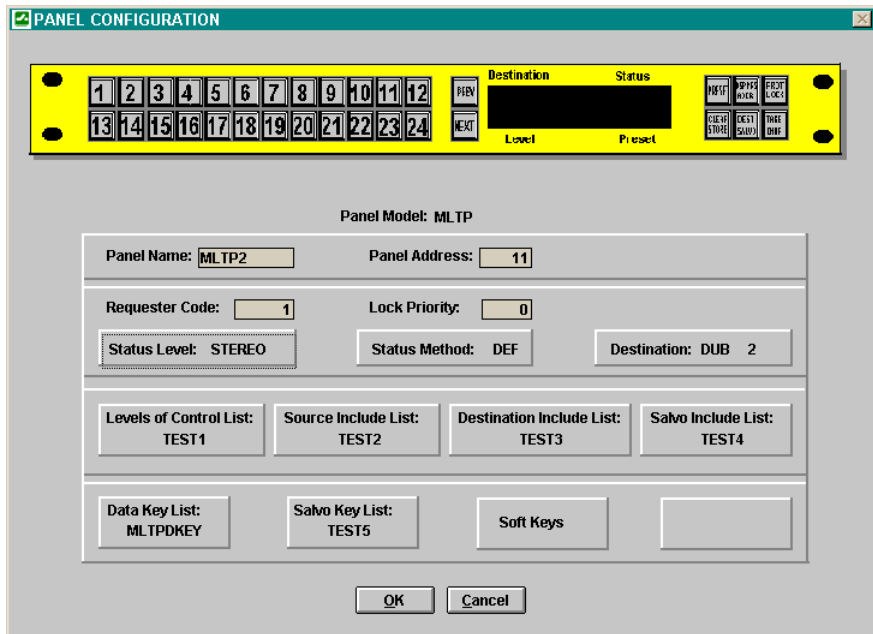

Figure 44 Panel Configuration Window (Typical)
2. Click the **Add** button in the PANEL window to open the PANEL CONFIGURATION window (Figure 44). Each PESA control panel has a custom PANEL CONFIGURATION window. Only those configurable items applicable to the chosen panel will be displayed in the window. For a panel-by-panel breakdown of configurable items, see the Control Panel Configurable Items list (Table 2 on page 55). Each configurable item is explained in detail below.